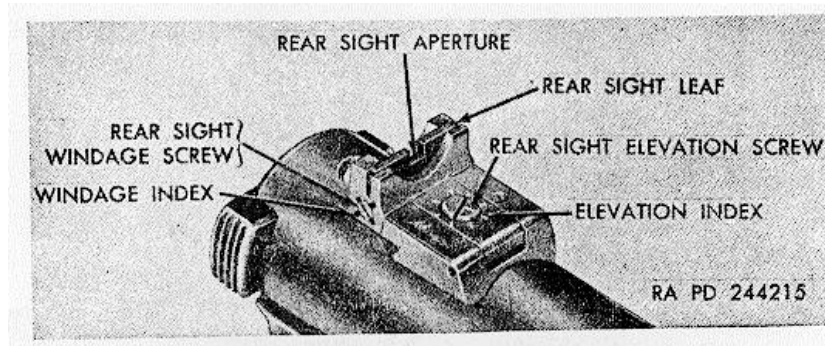
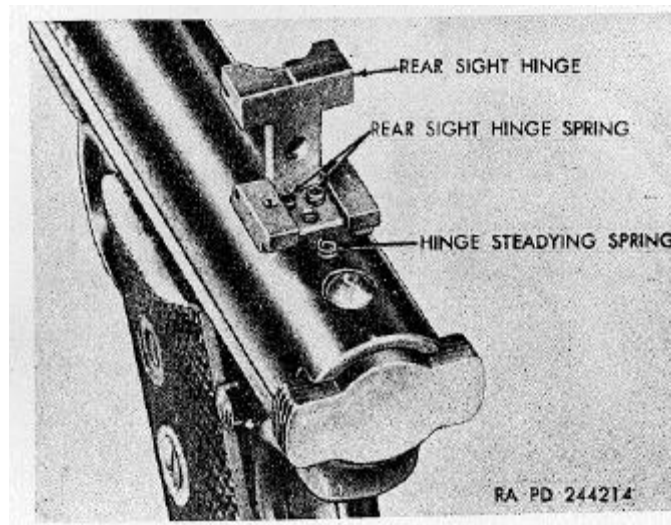

Figure 20. Micro rear sight (Ruger).
Figure 21. Micro rear sight with elevation screw removed (Ruger).
- (1) *General.* The micro rear sight fits into a dovetail slot at the rear of the receiver. The micro rear sight hinge (fig. 21) is pivoted at the front of the rear sight base. The hinge is held at a set elevation by two rear sight hinge springs and a hinge steadying spring. The micro rear sight leaf (fig. 20) slides in a slot in the hinge. It is spring loaded and can be moved by the rear sight
- (a) The rear sight elevation screw (fig. 20) is located at the rear of the receiver in front of the micro sight leaf. The serrated head of the screw rests against a spring-loaded ball to give positive positioning. Spring loading of the click ball is obtained from the micro rear sight hinge springs (fig. 21) which are eccentric to the elevation screw.
- (b) The micro rear sight hinge (fig. 21) has elevation index (fig. 20) marks engraved at 45-degree intervals corresponding to each click. Turning the elevation screw clockwise lowers the impact of the bullet 1/2 inch at a 15-yard range.
- (a) The rear sight windage screw (fig. 20) is located at the right side of the receiver under the micro sight leaf. The screw has a cup end which rests against a cone shape on the leaf which makes the click sounds. The micro sight leaf is spring loaded to provide for movement of the leaf. This spring also acts on the click cone.
- (b) The micro rear sight base has windage index marks (fig. 20) engraved at 90-degree intervals corresponding to one click. Turning the windage screw clockwise, one click, moves the impact of the bullet 1/2 inch to the left at a 15-yard range.